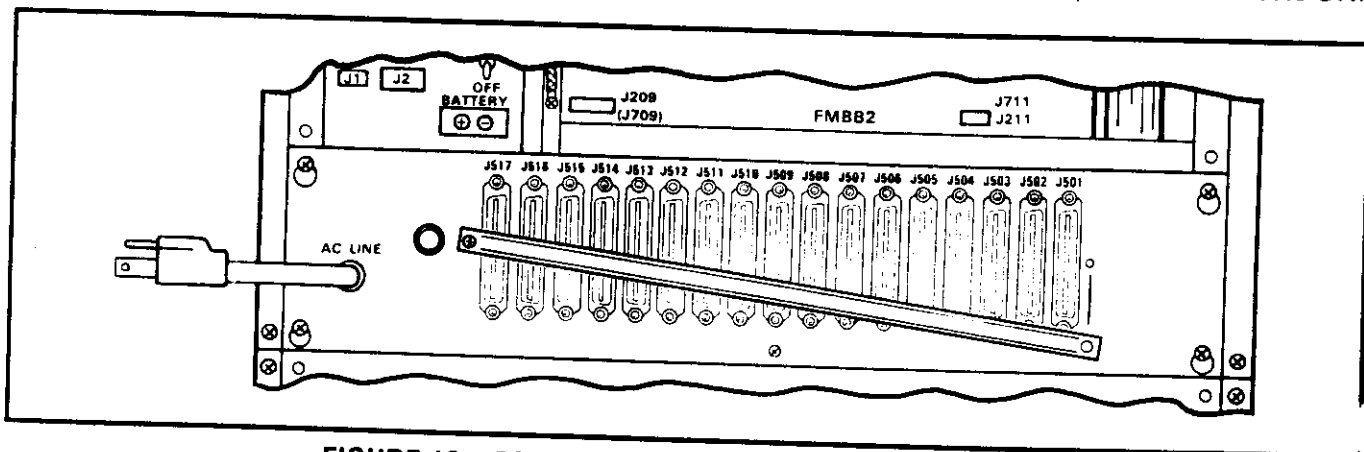

FIGURE 16—FCEC-S REAR CONNECTOR LOCKING BAR
- 16) Attach the male amphenol-type connectors to the connector panel of the expansion cabinet, and secure them in place with the connector locking bar (Figure 16). Install the connector locking bar (located on the outside of the basic cabinet rear panel), and use the plastic cable clamps that are provided along